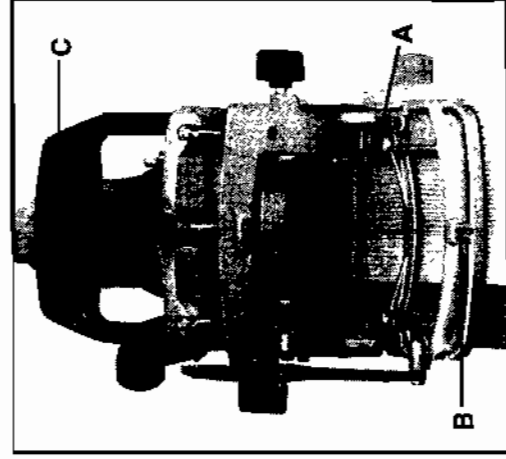

Fig. 20
6. Position machine to workpiece with bottom of fence resting on workpiece. Align guide notch (A) or (B) Fig. 20, with a groove centerline. Apply pressure to auxiliary handle (C) Fig. 20, to keep front of machine and fence in firm contact with workpiece.